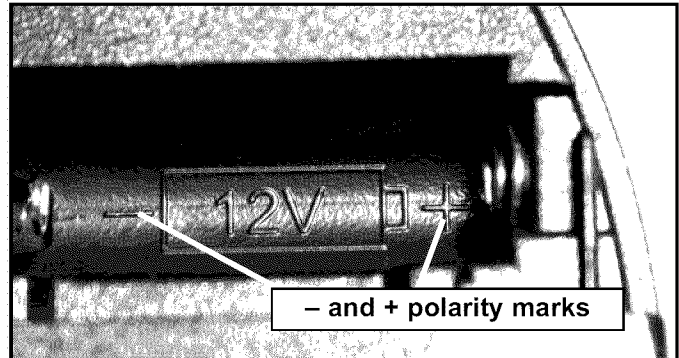

FIG. 8-2 Match battery polarity.
- Make sure new battery is facing proper direction (Match battery polarity with symbols inside battery cover) (Fig. 8-2).